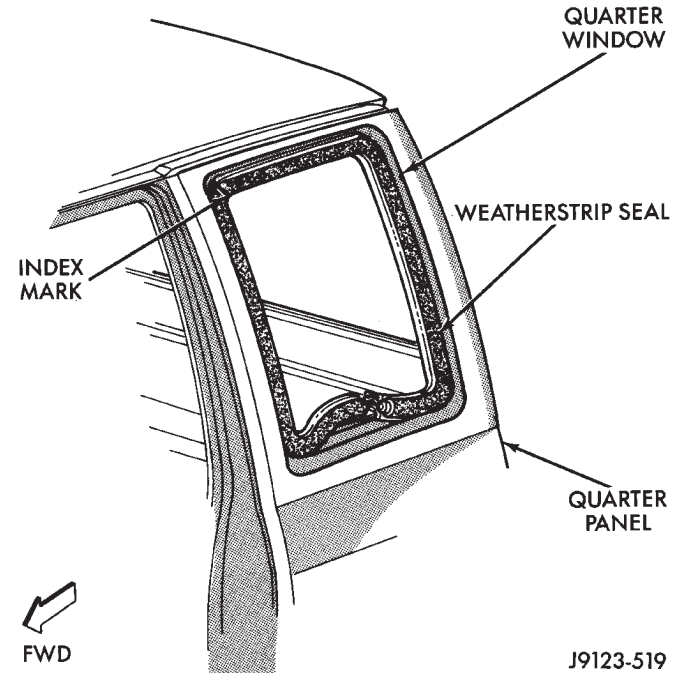

Fig. 34 Weatherstrip Seal Removal/Installation
- (1) Remove the window.
- (2) Pull the seal away from the flange around the perimeter of the window opening (Fig. 34).
- (3) Clean the flange, as necessary.